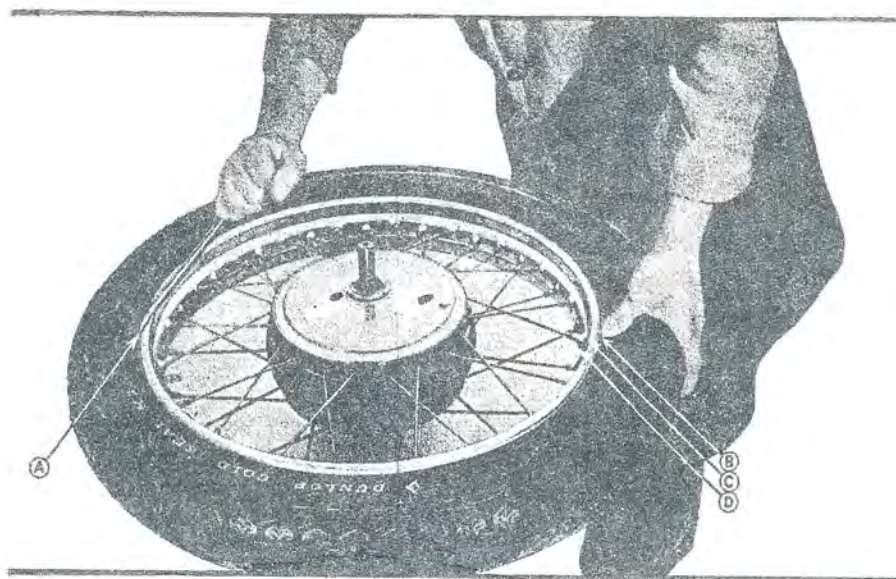

FIG. F.17.
It will not be possible to pull the cover bead at (A), Fig. F.17, over the rim flange until the cover bead at (B) is pushed off the bead seat (C) down into the well (D). Then the cover bead at (A) comes over the rim flange easily.